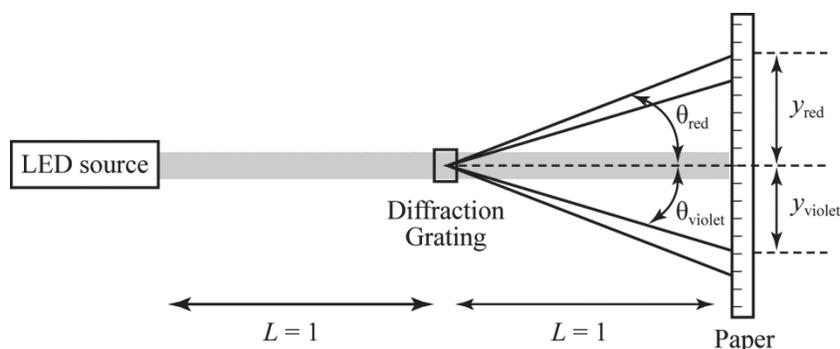

Figure 44 – LED Flashlight Diffraction Grating
2. Mount a 1.5" post holder (LI-4) onto a mounting base (LI-7). Mount a dual filter holder (LI-6) onto a 1.5" post (LI-5). Secure the 1.5" post into the 1.5" post holder on the mounting base. Place the diffraction grating (LI-8) into the dual filter holder. Place the mounting base with the diffraction grating assembly exactly 1 meter from the wall. 1 meter will be the length, L , for performing calculations in Step 6. See Figure 44.
- Using the metric ruler (LI-9), measure the distance " y_{violet} " from the center of the grating to the violet end of the spectrum as shown in Figure 44 and record this value for " y_{violet} " in the "Grating" part of Table 34. Likewise, measure and record the distance between the center of the grating and the red end of the spectrum. Record this value for " y_{red} ." Use 1 meter for " L ." Calculate and record " θ_{violet} " for the violet end of the spectrum and " θ_{red} " for the red end using the formula in Table 34.